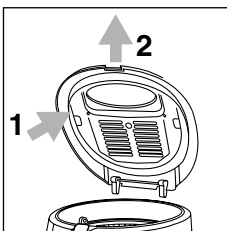

fig. 5
1. Remove the lid (fig. 5) and empty the tank from the side shown
**Remove the lid as shown in fig. 5.**
The lid is removable, to take it off, proceed as follows: push the lid back (see arrow "1" fig. 5) and at the same time, lift it up (see arrow "2" fig. 5).